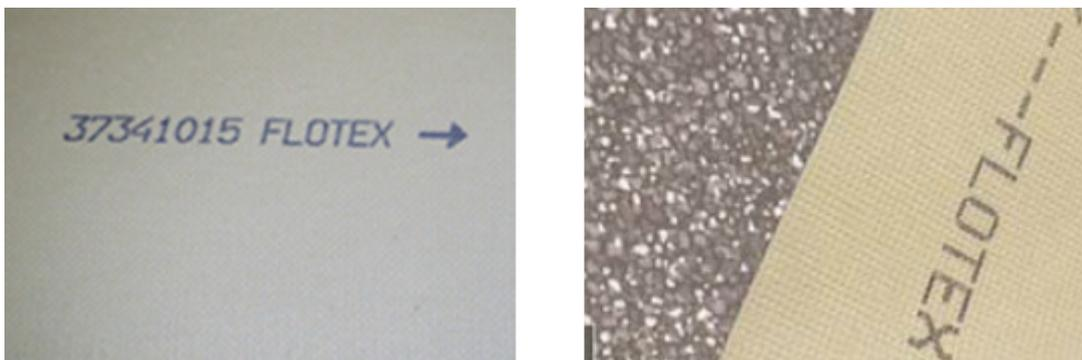

Fig 1.
- Install sheets in the same direction for seaming, with the arrows on the back of the sheet - which indicate the pile direction - all pointing in the same way. **Refer to Fig 1.**
- Arrows on the back of the sheet indicate the pile direction. Refer to Fig 1.